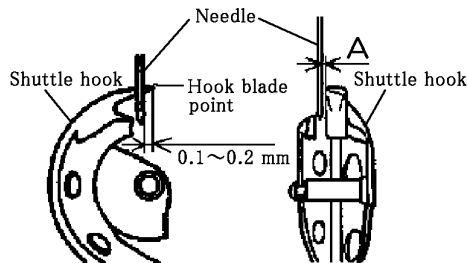

Fig.3
1. Turn the handweel beyond the lower dead point of needle bar. When the hook blade point has protruded by 0.1 to 0.2 mm from the side face of needle, measure the clearance (A) between the needle and the hook.(Fig. 3)
A = 0.03 to 0.08 mm (Fig. 3)